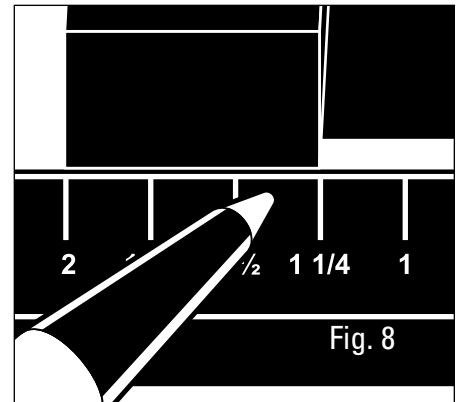

Fig. 8
2. Adjust V-nail block in slider to same dimension as vis scale. V-nails are now set approximately 1/4 inch from each end of joint (Fig. 8).